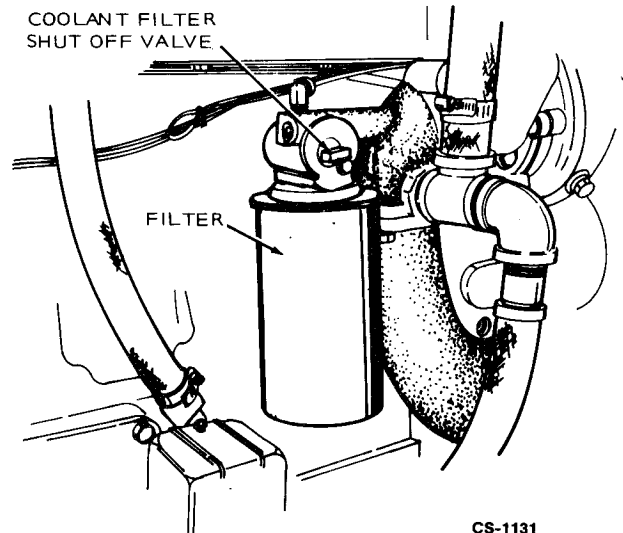

FIGURE 18. WATER FILTER
1. Close the shut-off valve on the top of the filter head (see Figure 18).